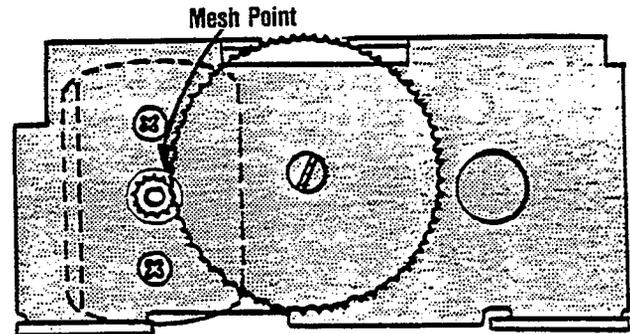

Figure 4-22.
3. Motor gear mesh is adjusted by loosening the top and bottom motor mounting screws, and re-positioning the motor as necessary. The mesh between the motor and the large transmission gear must be as deep as possible without binding. When this condition is obtained, tighten the motor mounting screws; see Figure 4-22.